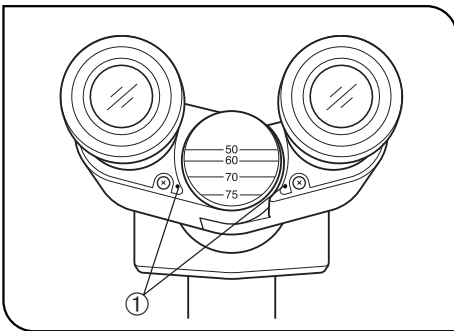

Fig. 9
Adjust so that the two index dots • ① are horizontal. (Fig. 9)
When your interpupillary distance is other than 50, 60, 70 and 75, adjust so that the line connecting the two index dots are in parallel with the horizontality lines on the pivot. (Fig. 9)